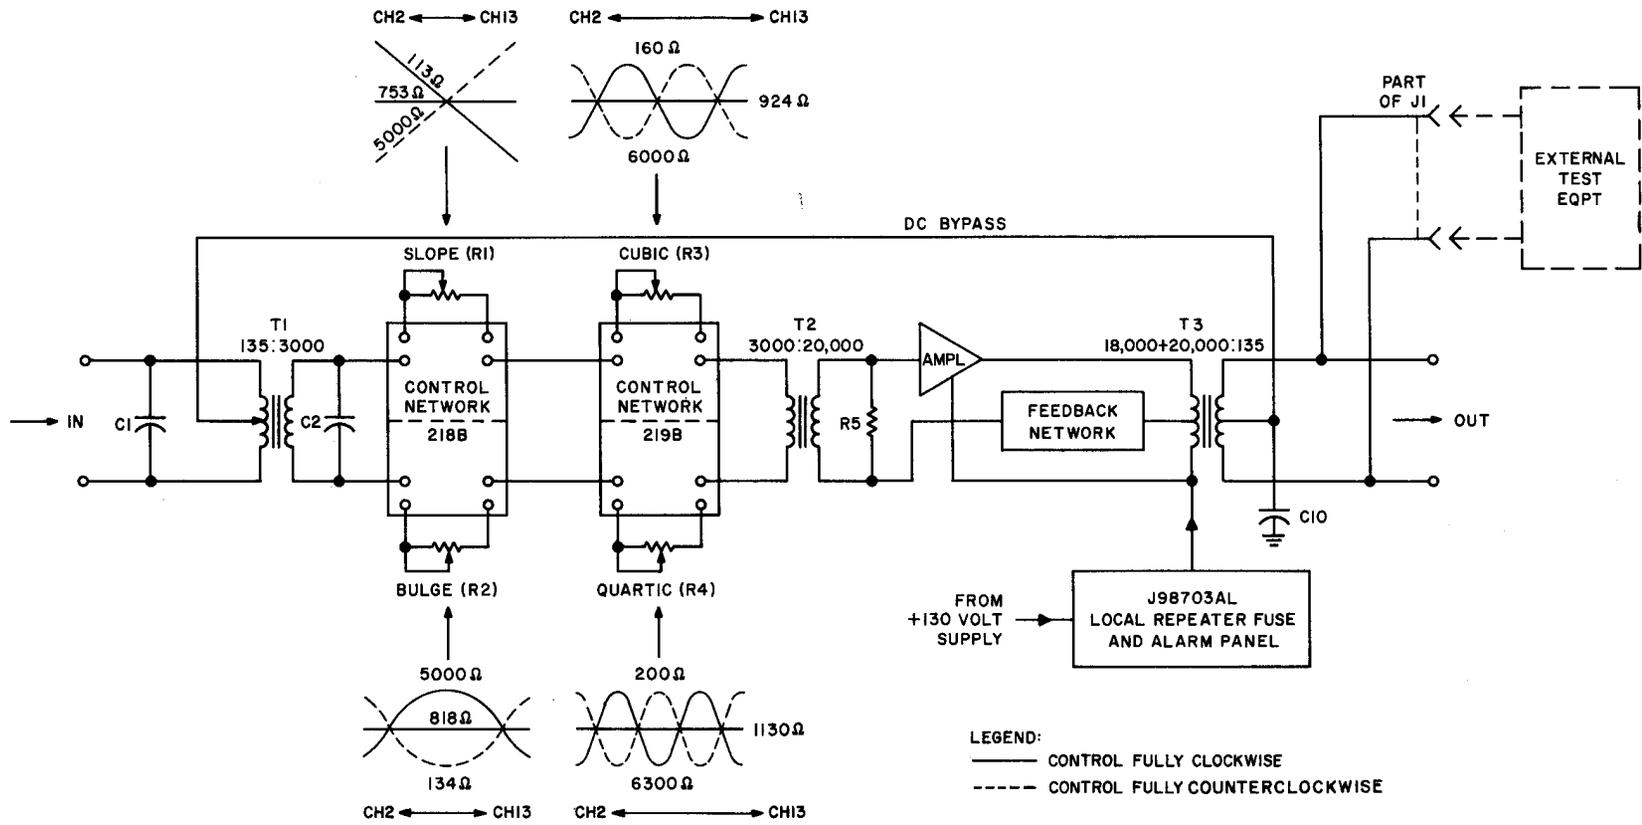

Fig. 2 — Adjustable Deviation Equalizer, Block Diagram
**3.02** The control networks consist of capacitors, inductors, and resistors in hermetically sealed containers. The resistance values of the networks are altered by adjusting the associated 10,000-ohm potentiometer, thus changing the magnitude and slope of equalization. The characteristic curves associated with each potentiometer are shown in Fig. 2.
**3.03** Fig. 2 shows a block diagram of the adjustable deviation equalizer. Transformer T1 matches the impedance of the control networks to that of the line. Capacitors C1 and C2